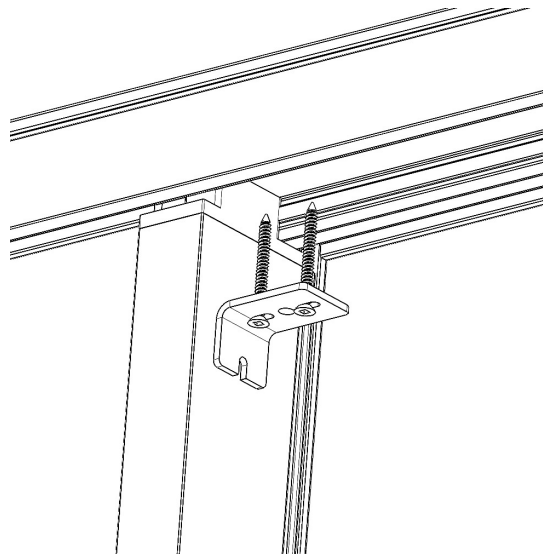

Figure 14
24. With the frame head parallel with the sill assembly, secure the fixed panel. Position the fixed clip into the head, using clip pre-drilled holes as a guide, drill clearance holes for assembly screws. Anchor the fixed clip to the frame head with a pair of #10 x 2-1/2" PH Flat Head screws. See **Figure 14**.